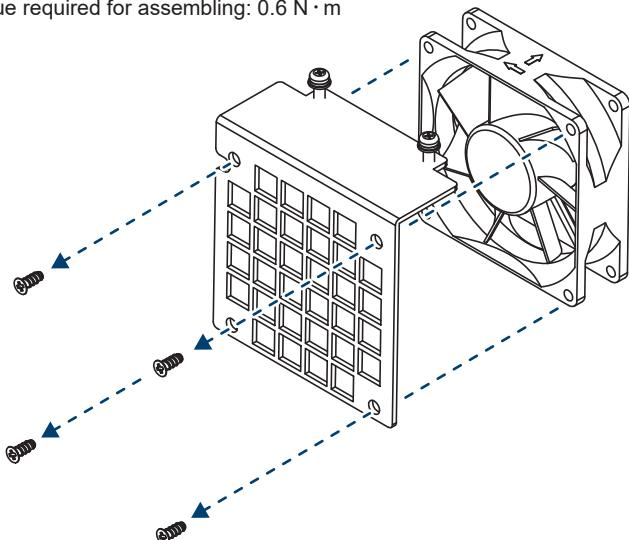

Figure 5-14: Replace with a new fan
- (3) Lift the entire fan assembly. (**Figure 5-14**)
- (4) Clean assembly or replace with a new fan.
- (5) Reassemble by using 0.8 N · m tightening torque.